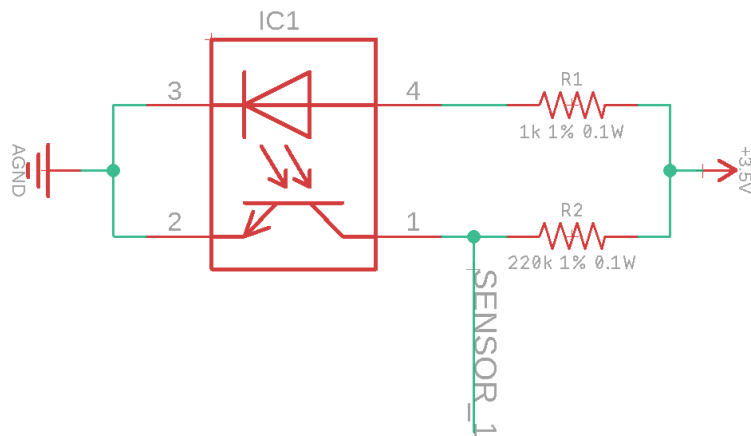
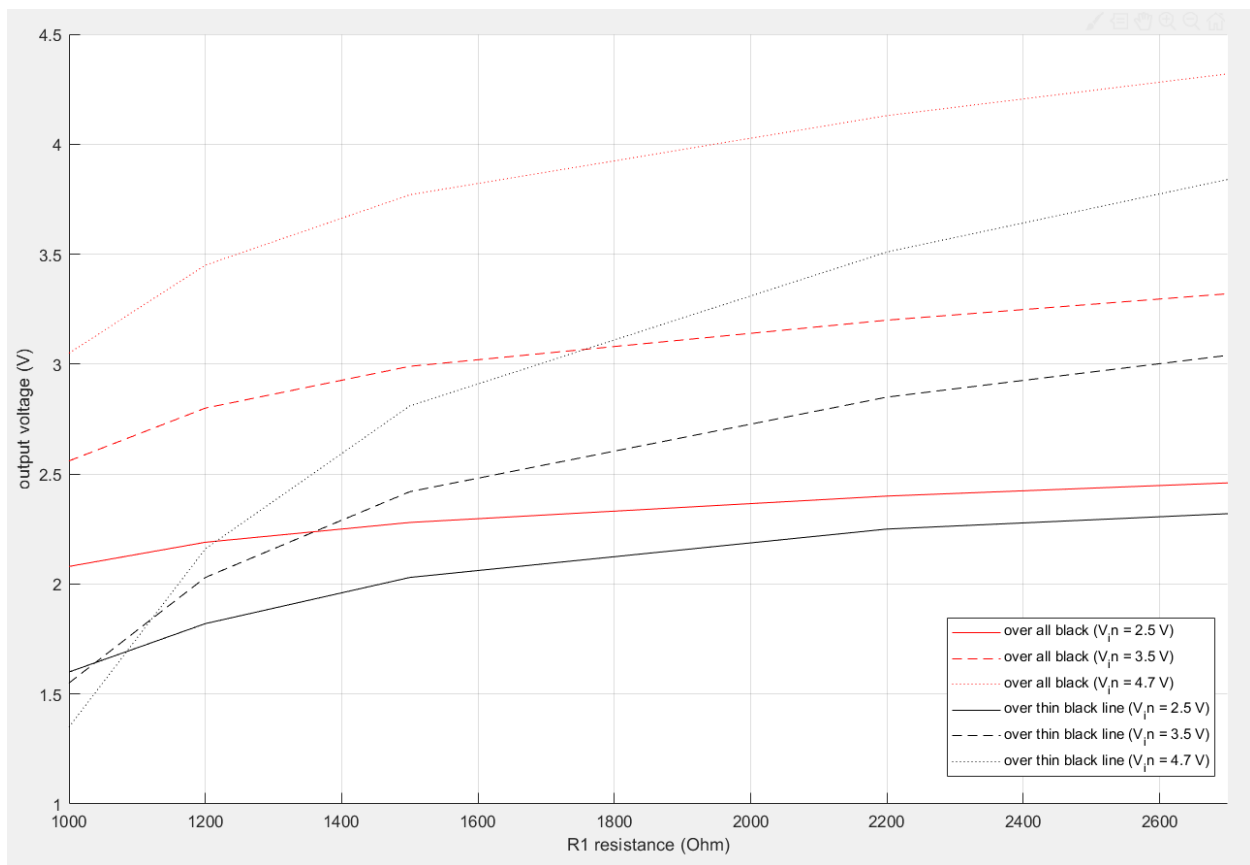

Figure 12 Sensor unit schematic
Figure 15 Output voltage dependence on value of R1. R2 = 220 kOhm, height = 2 mm.
- Value of resistor R1 (resistor R2 depends on value of resistor R1). For schematics see Figure 12 for data see Figure 15. This is a current limiting resistor for photodiode. Larger value of R1 has the following pros/cons:
Figure 12 shows schematic for the sensor unit. It is based on schematics from GP2S60 datasheet, <http://www.pololu.com> (lots of awesome boards which can be used in robot building and prototyping) and from the book Practical Electronics for Inventors by Paul Scherz and, Simon Monk.